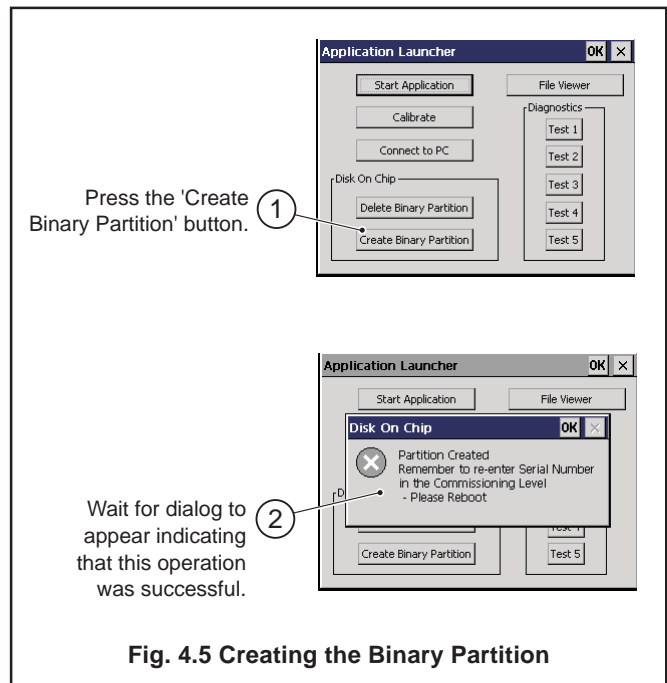

Fig. 4.5 Creating the Binary Partition
13) Create the Binary Partition – see Fig. 4.5.